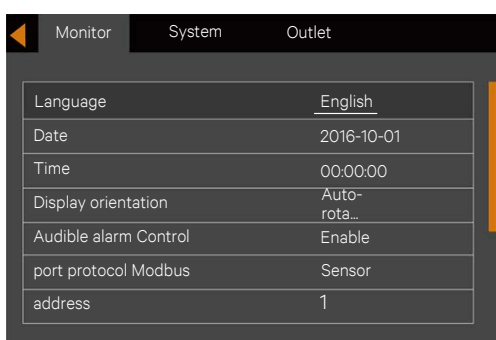

Figure 5-13 Changing Language
4. Press the or key to select your required language, then press the key to confirm it. At this point, the LCD information will be the displayed in your selected language. See Figure 5-13.